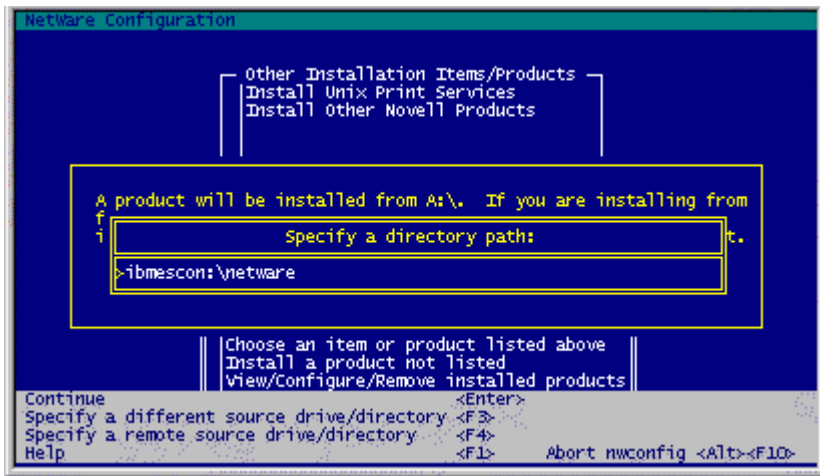

Figure 3-23. Specify a Directory Path
- A pop-up window appears prompting you for a directory path (Figure 3-23). Enter “ibmescon:\ netware” where “ibmescon” is the volume ID of the installation CD.
5. A pop-up window appears prompting you for a directory path (Figure 3-23). Enter "ibmescon:\netware" where "ibmescon" is the volume ID of the installation CD.